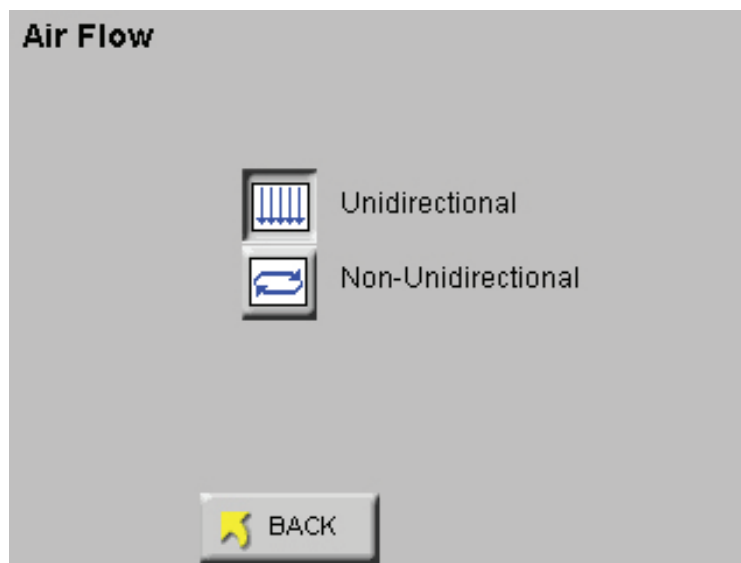

Figure 4-72 Reports Air Flow Screen
- Press the FLOW button to display screen shown in Figure 4-72.